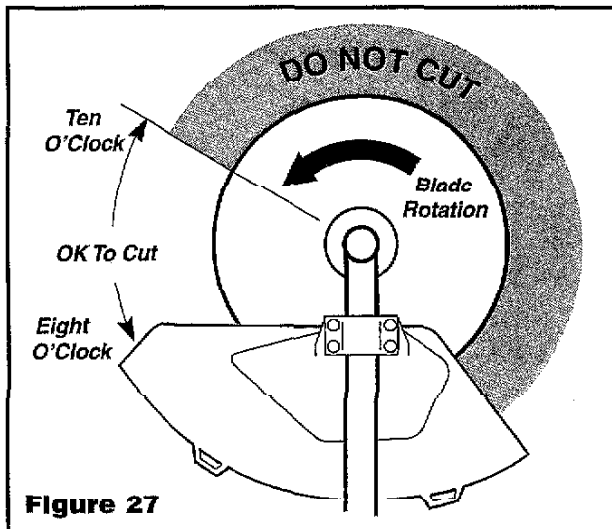

Figure 27
- Avoid blade thrust by keeping the blade in view during operation. Watch your cut at all times. Cut **ONLY** small trees and/or branches with the left side of the blade between the 8 o'clock and 10 o'clock positions as shown in Figure 27. Avoid cutting with any other part of the blade. When cutting brush, sweep the blade from right to left, always keeping the blade well in front. It is recommended that the blade be tilted down slightly to help keep debris from accumulating on the edge of the blade.